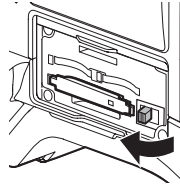
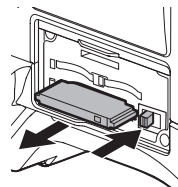

Fig. 1
Fig. 2
2 Open the card slot cover. (Fig. 1)
- Insert the card with the logo facing upwards until the eject button pops out. (Fig. 2)
- Lift the eject button (Fig. 1), and press in. (Fig. 2)